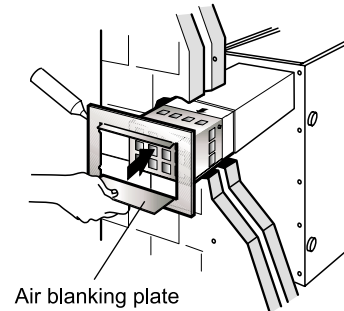

Fig. 27
- 11 Make good the hole in the wall and fit the terminal dress plate using a suitable mastic sealant (not supplied) to provide a weatherproof seal. See Fig. 27.
Ensure that the air blanking plate of the terminal dress plate covers the air intake holes on the underside of the flue terminal as shown in Fig. 27.